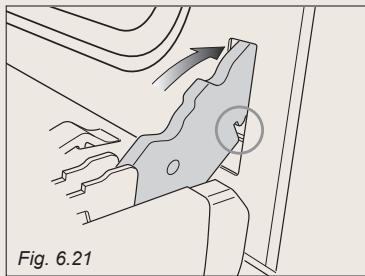

Fig. 6.21
2. Insert the hinge tongues into the slots, making sure that the groove drops into place as shown in the figure 6.21.